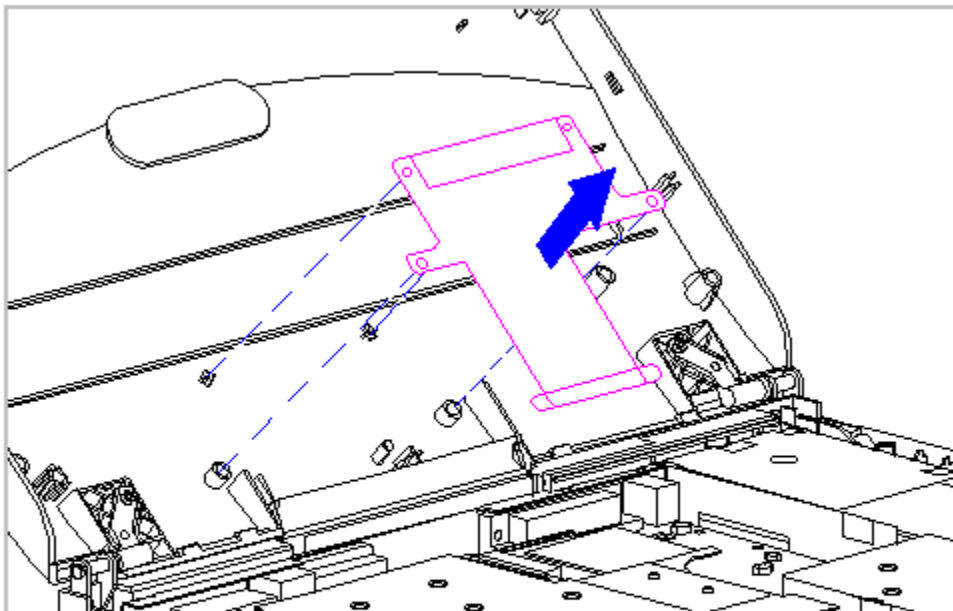

Figure 5-109. Removing the Display Ground Cable - CTFT (10.4 in) Display
10. Lift the display ground cable out of the display enclosure (Figure 5-109).